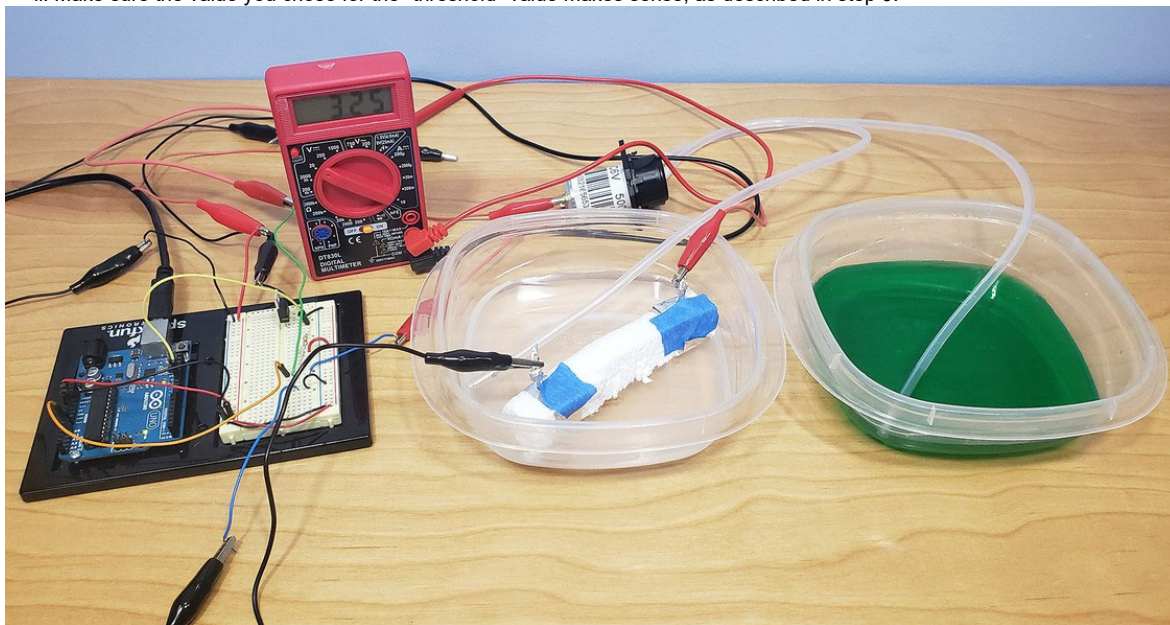

Figure 9. The experimental setup, with the pump arranged to pump tap water into the container of distilled water.
12. Reconnect the pump's negative wire to the middle pin of the MOSFET on the breadboard. The pump should start right away, pumping tap water into the container with distilled water (Figure 9). As it pumps, **use the pump's outlet tube to gently stir the distilled water container**. This will help evenly distribute the tap water throughout the container. Watch the output on the serial monitor, and/or your multimeter reading if you have it connected.